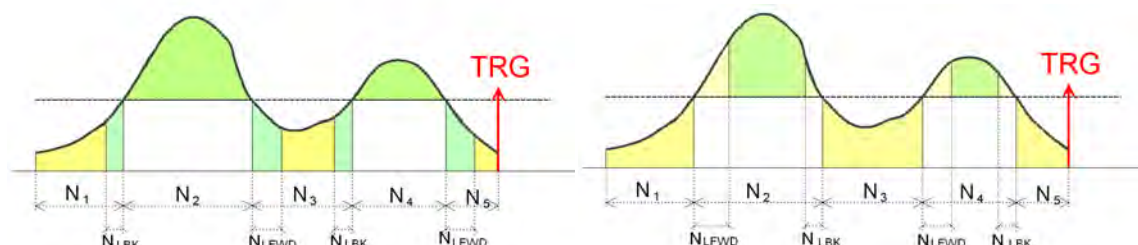

Fig. 7.11: Example of non-overlapping N_{LBK} and N_{LFWD} in case of positive logic (left) and negative logic (right).
1. In the simplest case N_{LBK} and N_{LFWD} **do not overlap**. Fig. 7.11 reports the case of positive logic on the left, and negative logic on the right. The green areas correspond to the over threshold samples, while the yellow ones correspond to the under threshold samples: